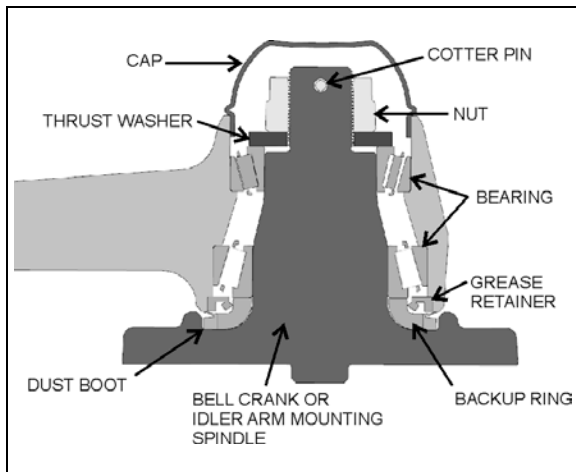

FIGURE 14: BELL CRANK OR IDLER ARM HUB
2. Remove the cap (Figure 14).
3. Remove the cotter pin, nut and thrust washer. Remove bearings, grease retainer, backup ring and the bell crank or idler arm from its mounting spindle (Figure 14).
Install grease retainer according to Figure 14. Grease must be able to exit the bell crank or idler arm mechanism. For grease retainer installation use tool Prevost # 110683.